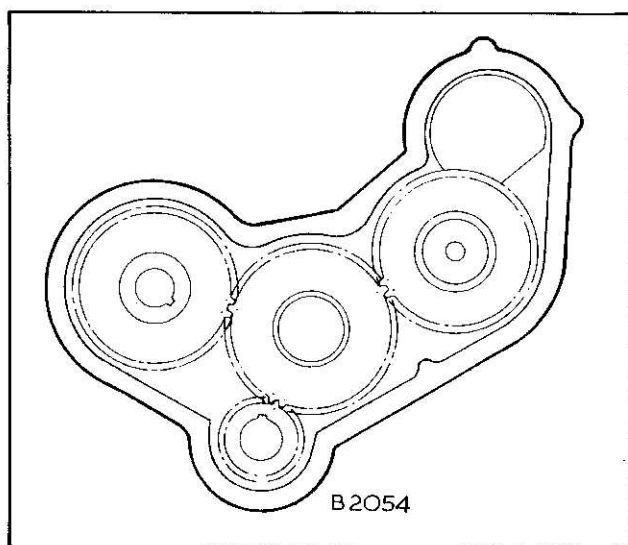

Fig. 13
5. Fit idler gear ensuring that marked teeth are in mesh, Fig. 13
On production, timing marks are stamped on the mating teeth of the crankshaft, idler, camshaft and fuel injection pump gears with No 1 piston at T.D.C. compression stroke, Fig. 13.